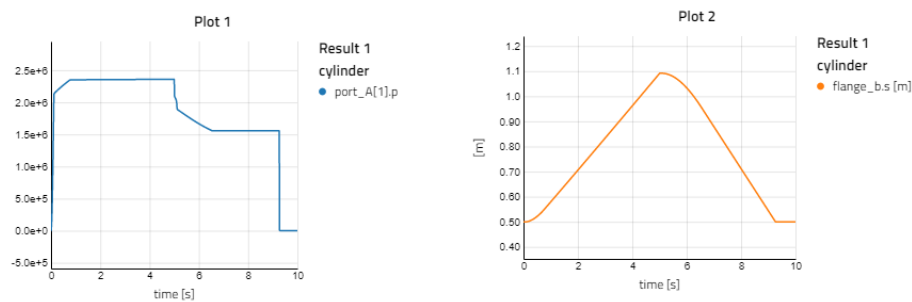

Figure 9 Plotting the cylinder pressure and flange position
3. Drag and drop the *p* variable to the *Model canvas* to plot it. Similarly, find and plot the cylinder flange position (*cylinder.flange_b.s*) as shown in Figure 9 .